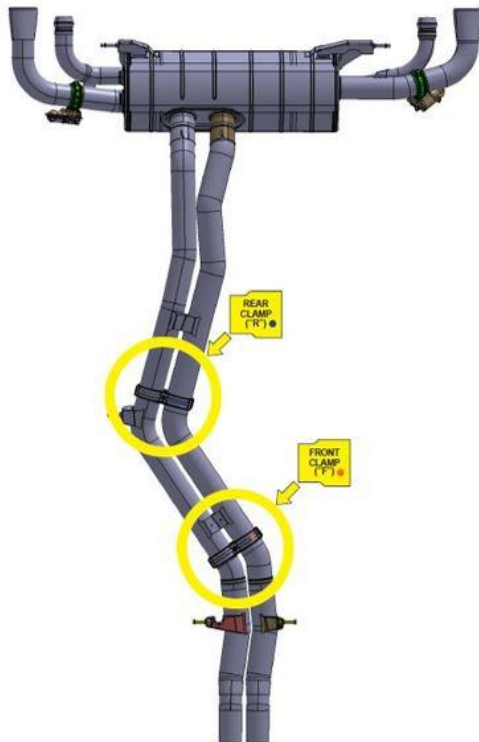

Figure 1. *Bottom View of the exhaust system with clamps installed*
2. Identify the front and rear clamp positions as per figure 1 diagram.